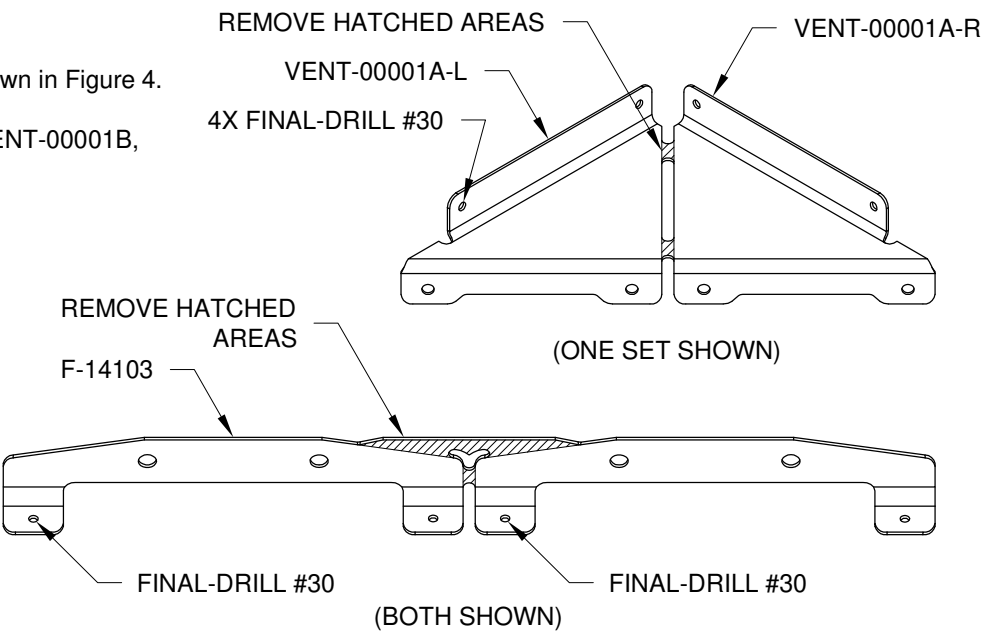

FIGURE 3: SEPARATE VENT SIDES & CABLE BRACKETS
Step 5: Separate and final-drill the VENT-00001A-L & -R and F-14103 as shown in Figure 3.